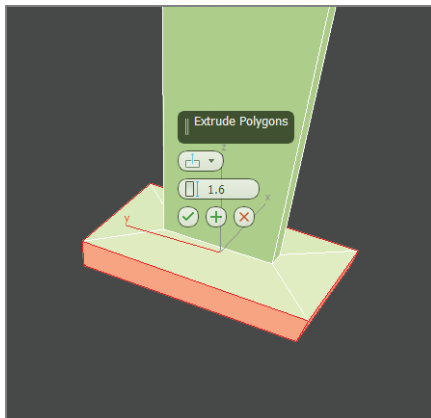

FIGURE 4.34 Use Extrude to begin the creation of the foot.
10. Choose the modeling ribbon > Polygons > Extrude > Extrude Settings. In the caddy, change the extrusion type to Local Normal and change the height to 1.6. Press Enter to set the input, then click the OK button in the caddy, as shown in Figure 4.34.